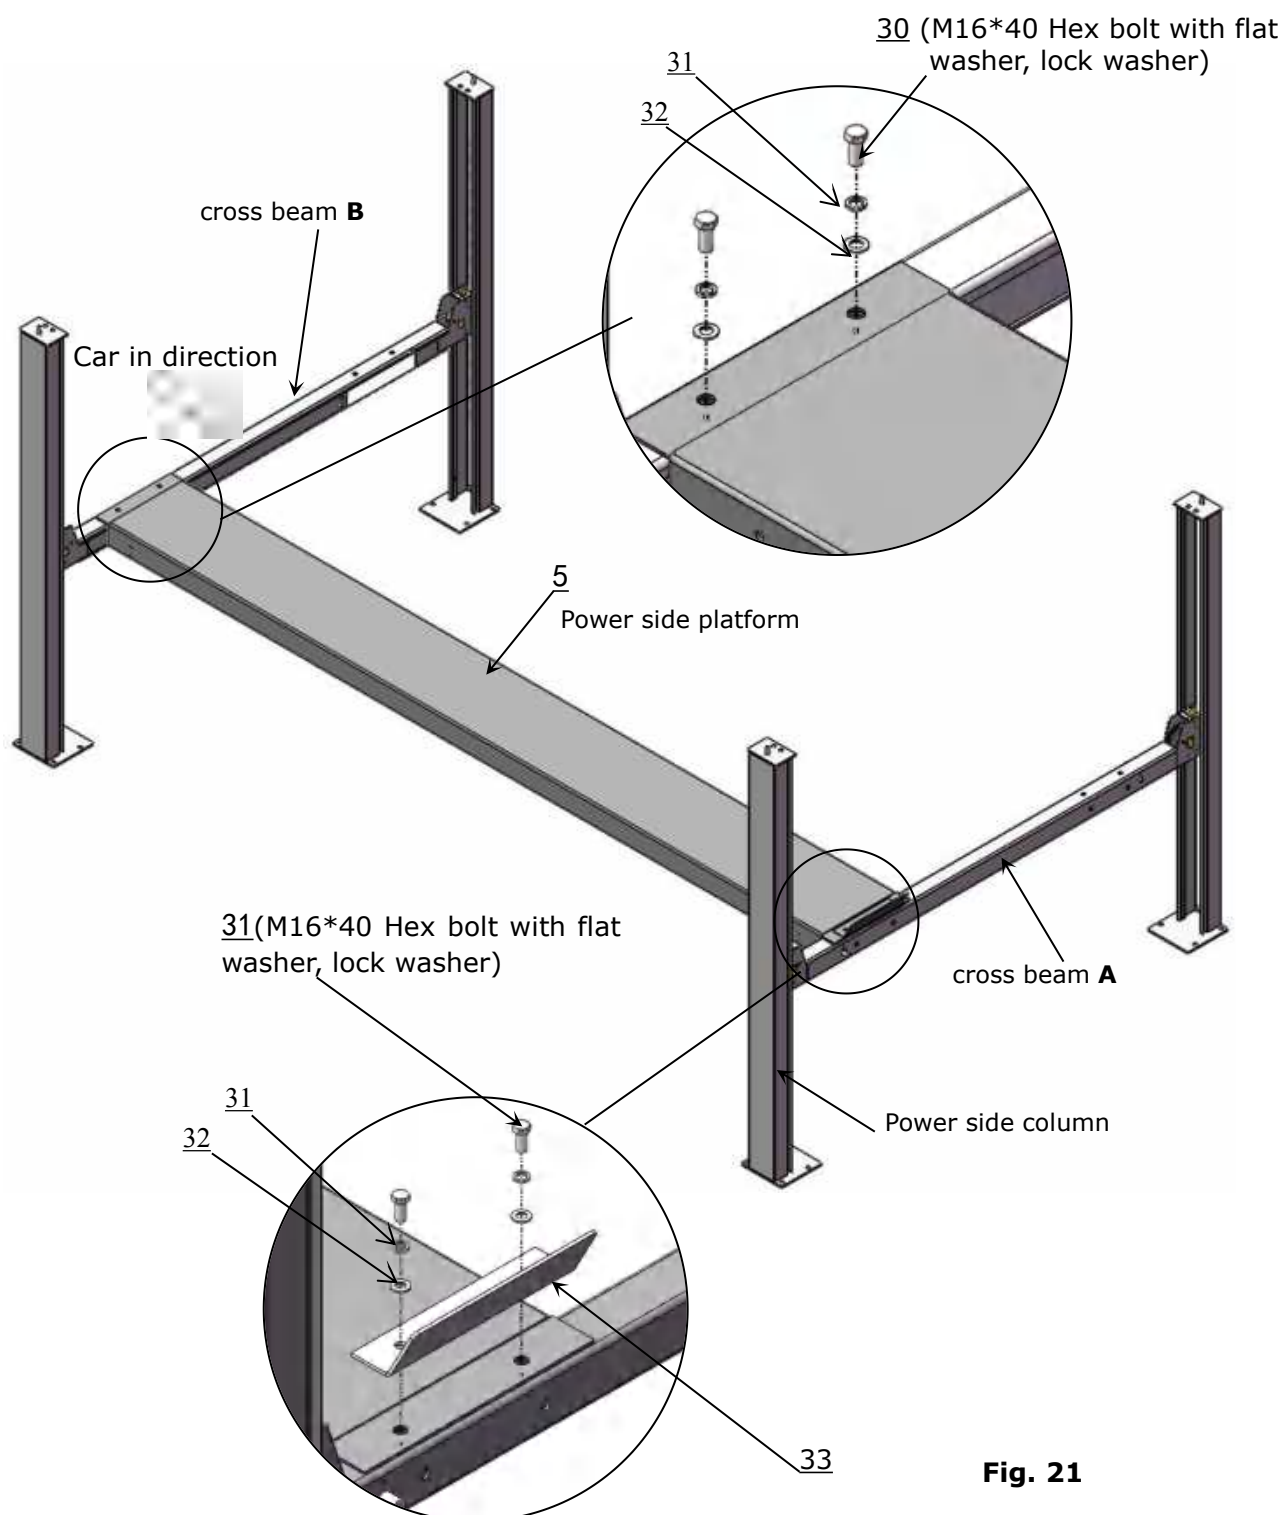

Fig. 21
2. Install connecting bolts of tire stop and platforms: Tighten cross beam B and platform with round head socket bolts, tighten cross beam A, platform and tire stop plate with hex bolts. (Note: Tire stop plate should be installed at the front direction. Hex bolts are used for tire stop plate, and the round head socket bolts are for the other side), See Fig.21